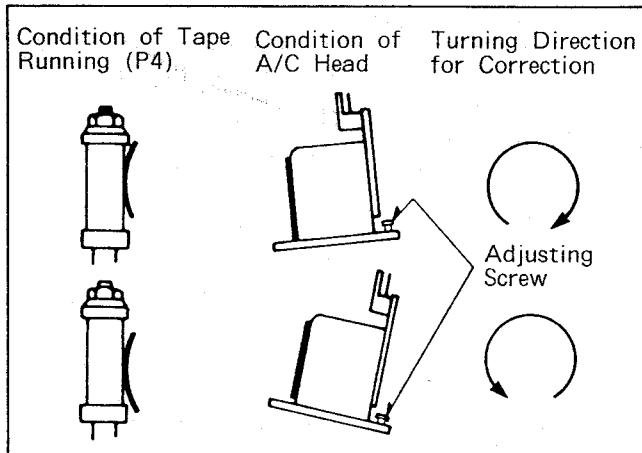

Fig. M8
- Play back the beginning portion of NV-E240 blank cassette tape and confirm that the tape runs between lower and upper limiters of the P4 post. If there is waving or frilling in the lower edge or top edge of the tape, correct the tilt of the A/C head by turning the screw located behind the A/C head. (Fig. M8)